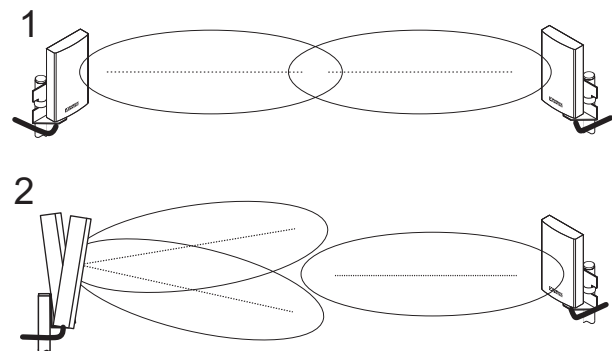

Figure 35 Correct transmitter and receiver beam (1); transmitter and receiver beam outside the target area (2)
With panel antennas, it is particularly important to ensure that the antenna is mounted securely. An unstable antenna may "sway" or "wobble" in strong winds, which over long distances can move the transmitter or receiver beam out of its target area (Figure 35 (2)).